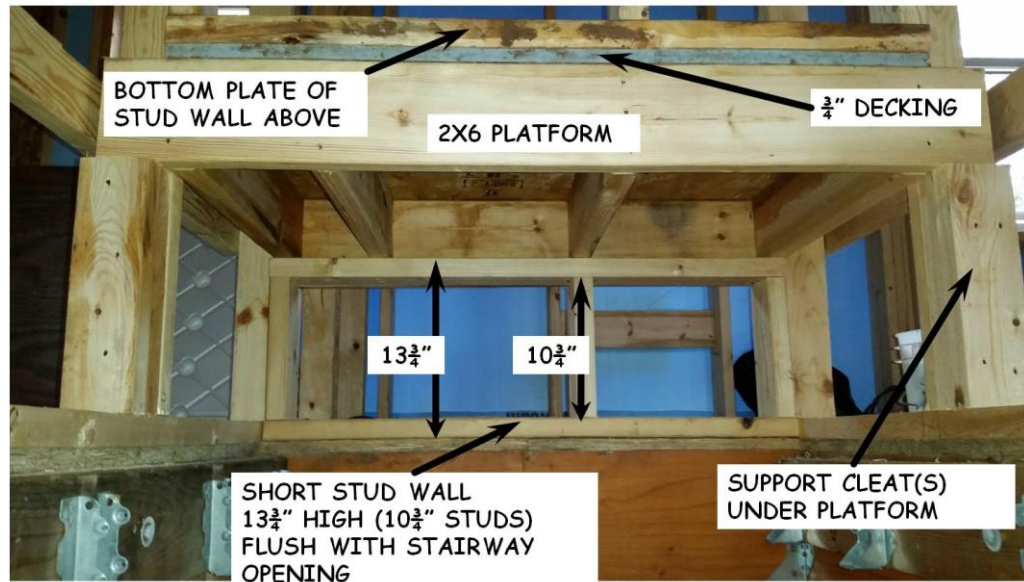
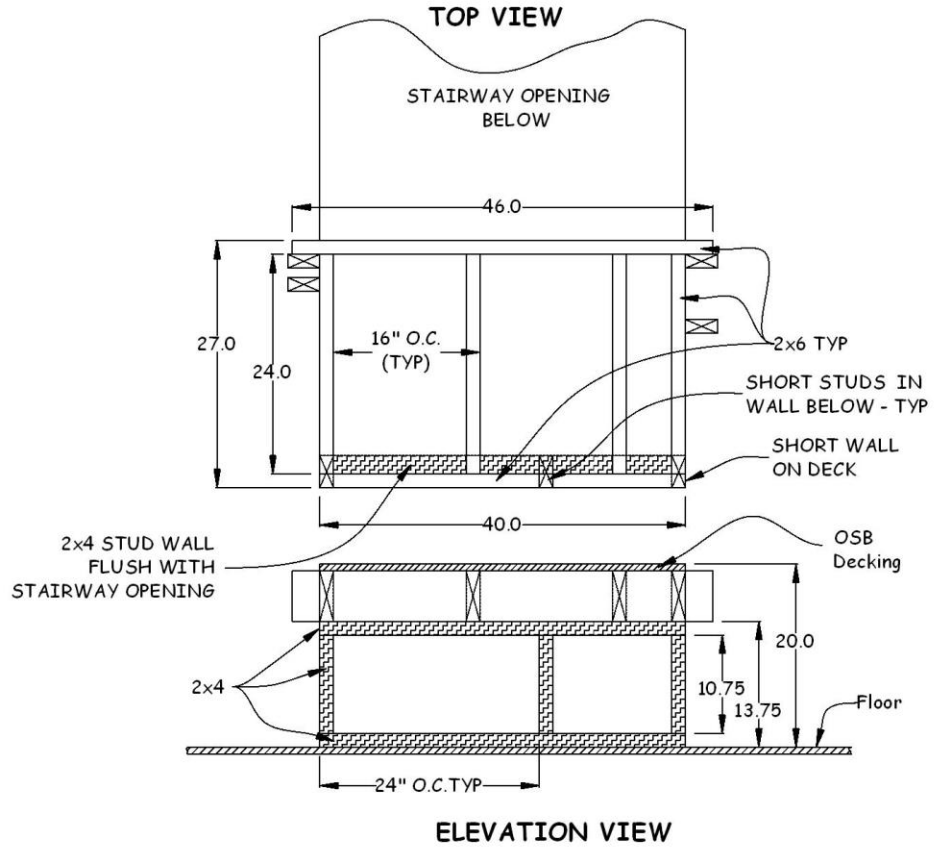

Figure 6-7. Closet Platform.
Figure 6-8. Closet Over Stairway.
3. Build a 27"x40" platform with 2x6 joists (16" o.c.) and $\frac{3}{4}$ " OSB decking as shown in Figure 6-7. The stairway opening is typically 40" wide. Adjust the platform width if necessary to fit between the walls. The 2x6 that bridges the stairway opening on the cantilevered end should be 46" long so that it can be firmly supported with blocking or a stud inside the adjoining walls. Check the location of the wall studs to be sure that the 2x6 will not interfere on either side (see Figure 6-8). Once the platform is in place, with one end sitting on the short, 2x4 stud wall at the end of the opening, the other end will extend 24" over the opening. Adjust if necessary so long as the platform does not extend more than 24".